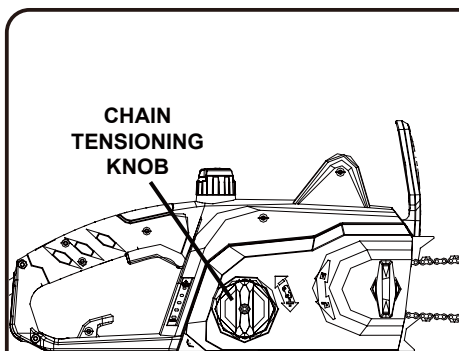

Fig. 23
REPLACING THE GUIDE BAR AND CHAIN (See Fig. 23 - 28.)
- Rotate the chain cover lock knob counter-clockwise, and remove knob. (See Fig.23)